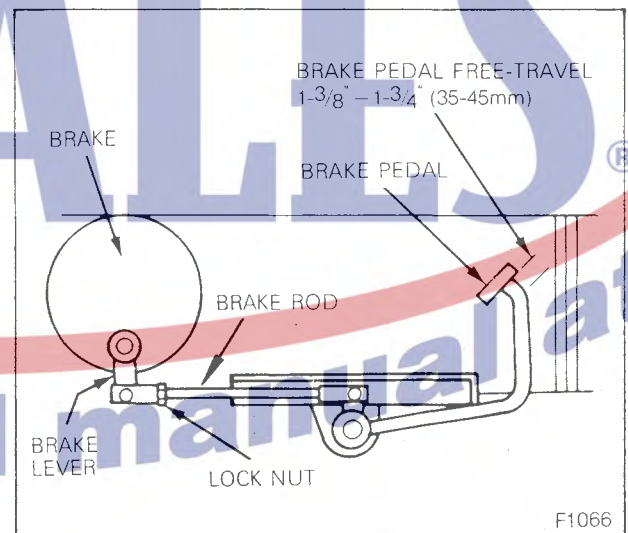

Figure 65 — Brake Pedal Adjustment
1. Loosen the lock-nut, Figure 65, and rotate the brake rod as necessary until there is  $1-3/8$  –  $1-3/4$  inch (35-45mm) of pedal free play. Lengthening the rod increases free play while shortening the rod decreases free play.